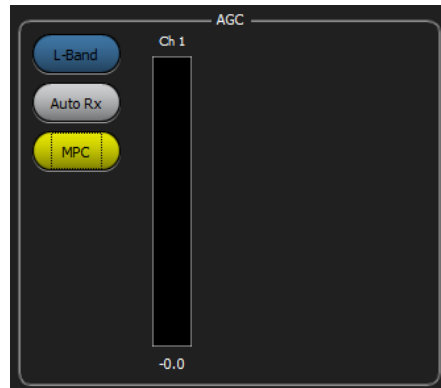

Figure 28: AGC Window
3. From the AGC window, select the MPC button. It will turn yellow, as shown in Figure 28, and the minimum elevation will be limited at the MPC Angle.